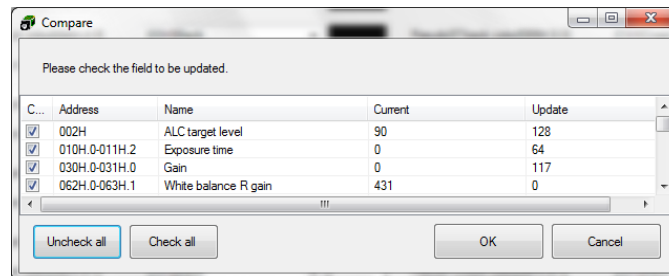

Figure 13
2. Verify the settings to load in the following window (Figure 13):
4. Verify the load settings in the following window (Figure 13):